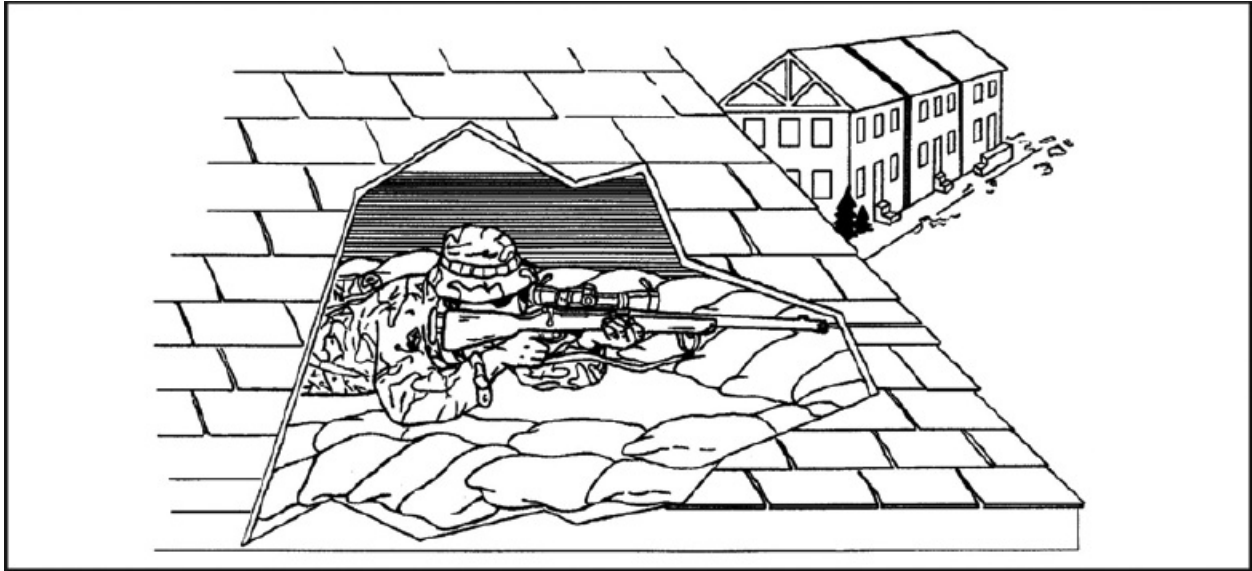

Figure 6-1. Roof hide
- *Roof Hide.* When preparing a sniper position on a roof that has no protruding structure to provide protection, the sniper should prepare his position underneath on the enemy side of the roof (Figure 6-1, page 589). He should remove a small piece of roofing material to allow him to engage targets in his sector. He then reinforces the position with sandbags and prepares it so that the only sign that a position exists is the missing piece of